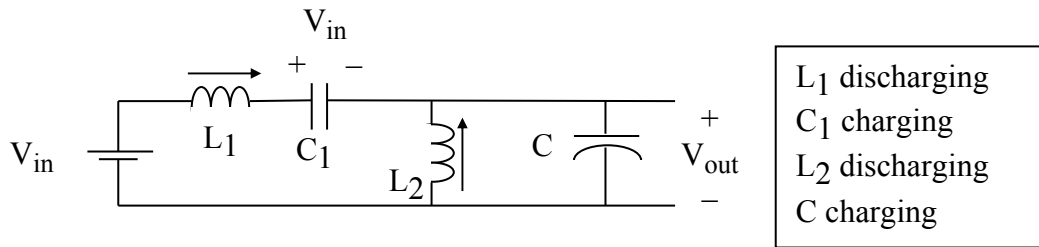

Figure 2b. Switch Open for  $(1-D)T$  Seconds
so that  $L_1$  is charging. When the switch is open (Figure 2b), the diode is forward biased, and  $i_{L1}$  decreases at the rate of
$$\frac{di_{L1}}{dt} = \frac{-V_{out}}{L_1}, \quad DT < t < T, \quad [\text{KVL, from large loop, Figure 2b.}] \quad (4)$$
From Figures 2b and 6, when the switch is open (i.e.,  $L_2$  is discharging),
Referring to Figure 2b, when the MOSFET is open, it is subjected to  $(V_{in} + V_{out})$ . Because of the usual double-voltage switching transients, the MOSFET should therefore be rated  $2(V_{in} + V_{out})$ .